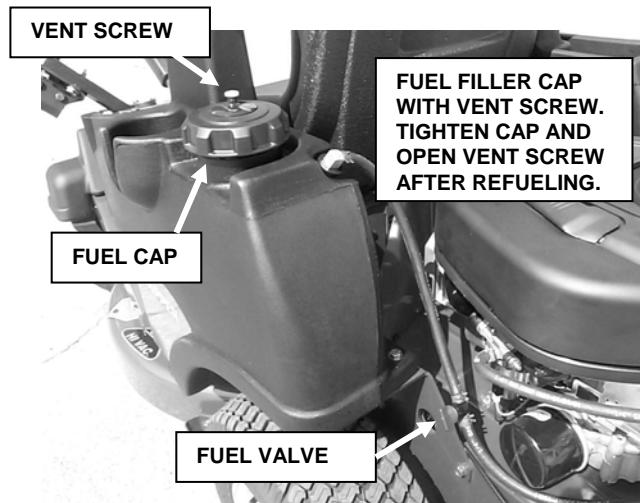

FIGURE 2.2
- 2.1.6. Add fuel to tank with machine out of doors where fumes can safely dissipate. Refer to engine owner's manual for fuel specifications. Make sure fuel filler cap is tight after filling tank. Open vent screw on fuel cap by turning counterclockwise. Also open fuel valve, located in fuel line. See Figure 2.2.
4. Make sure vent screw on fuel cap and fuel valve in fuel line are both open. See Figure 2.2.